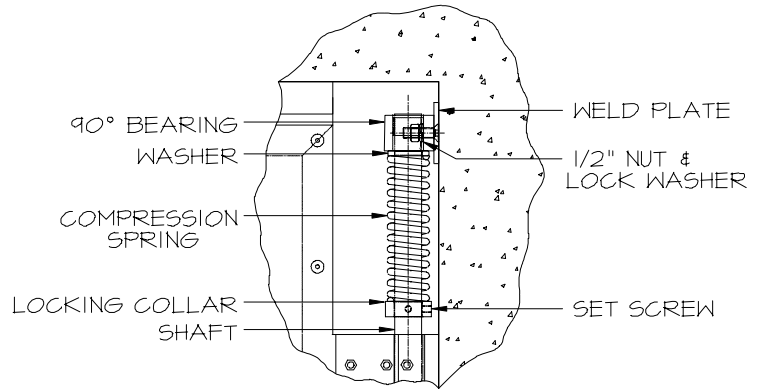

FIG. 7
- b. Place top hinge hardware onto shaft in the following order (Figure 7):
- a. Loosen set screws on the top bearing locking collar (Figure 7).